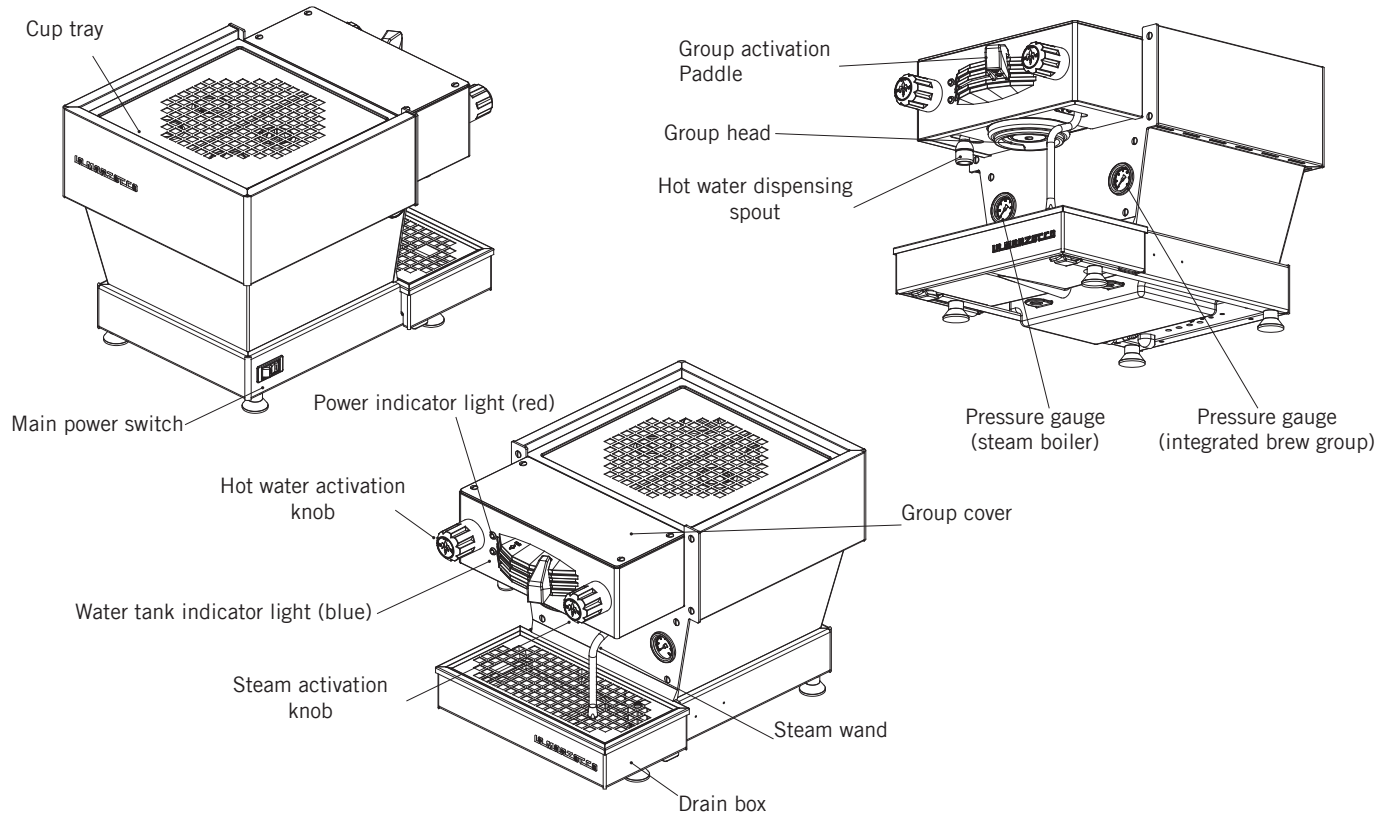

Figure 1 - Machine Description
**2. Brewing coffee.** It is now possible to remove the portafilter to make a coffee beverage. Place some ground coffee in the portafilter basket using the single or double basket. Press down on the ground coffee with the supplied tamper and install the portafilter on the linea mini. Move the paddle handle from right to left to begin brewing (see Fig.1 page 8).
You may dispense hot water by using the hot water nozzle. To dispense hot water rotate the left knob (see Fig.1 page 8).
Hot water may be dispensed from the Hot Water Wand on the left side side of the machine. This is accomplished by rotating the left knob (see Fig.1 page 8).